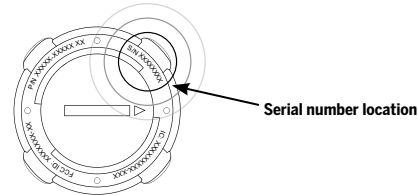

Figure 2: Location of InfoKey Controller Serial Number
1. Locate the serial number beginning with S/N, on the back of your InfoKey Controller (located under the trim ring, see **Figure 2**).